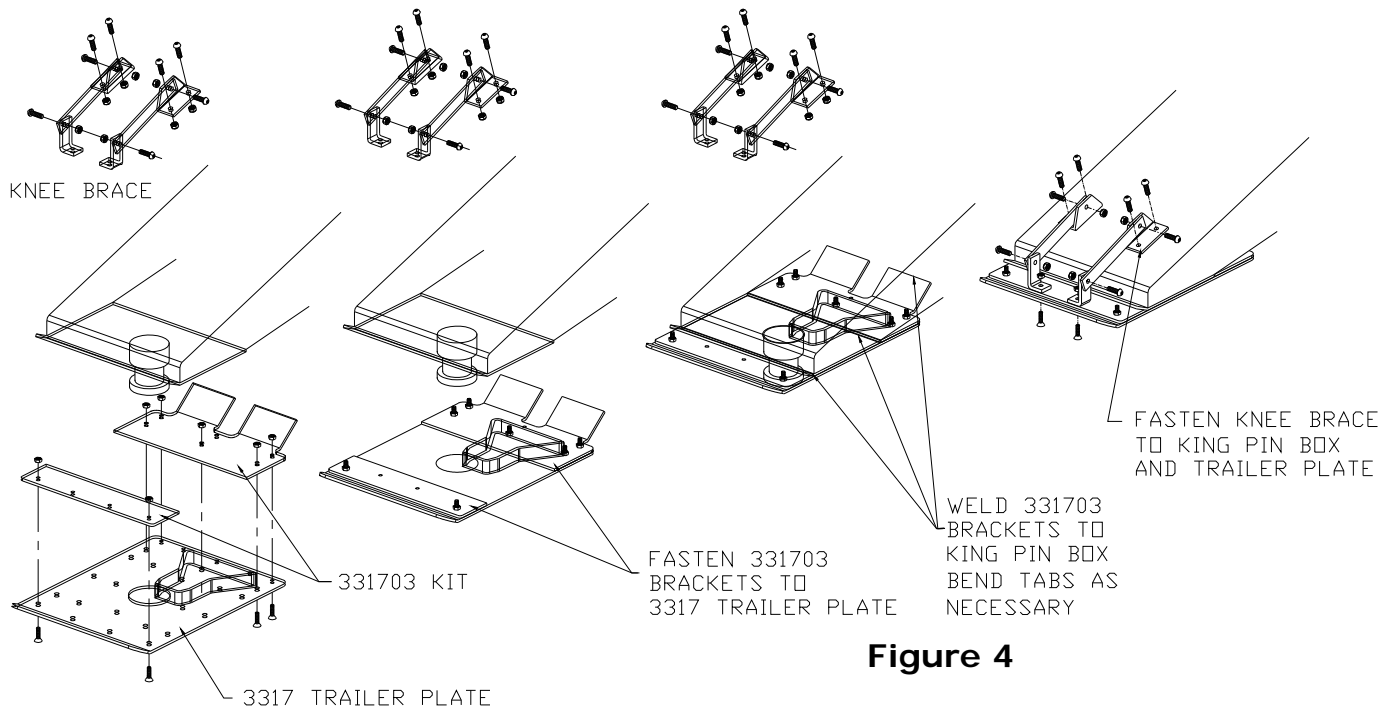

Figure 4
FOR KING PIN BOXES THAT ARE WIDER AND SHORTER: (Figure 4)
1. Place the Capture Plate {J2} over the king pin, with the guide wedge towards the rear of the trailer (wedge facing down), and measure the distance from the front and rear of the king pin box to the respective edges of the Capture Plate {J2} (to the bend of the Capture Plate {J2} in the front). Referring to Figure 4, fashion two plates, 3/16" to 1/4" thick, that will cover the holes of the Capture Plate {J2} showing in front and rear of the king pin box.